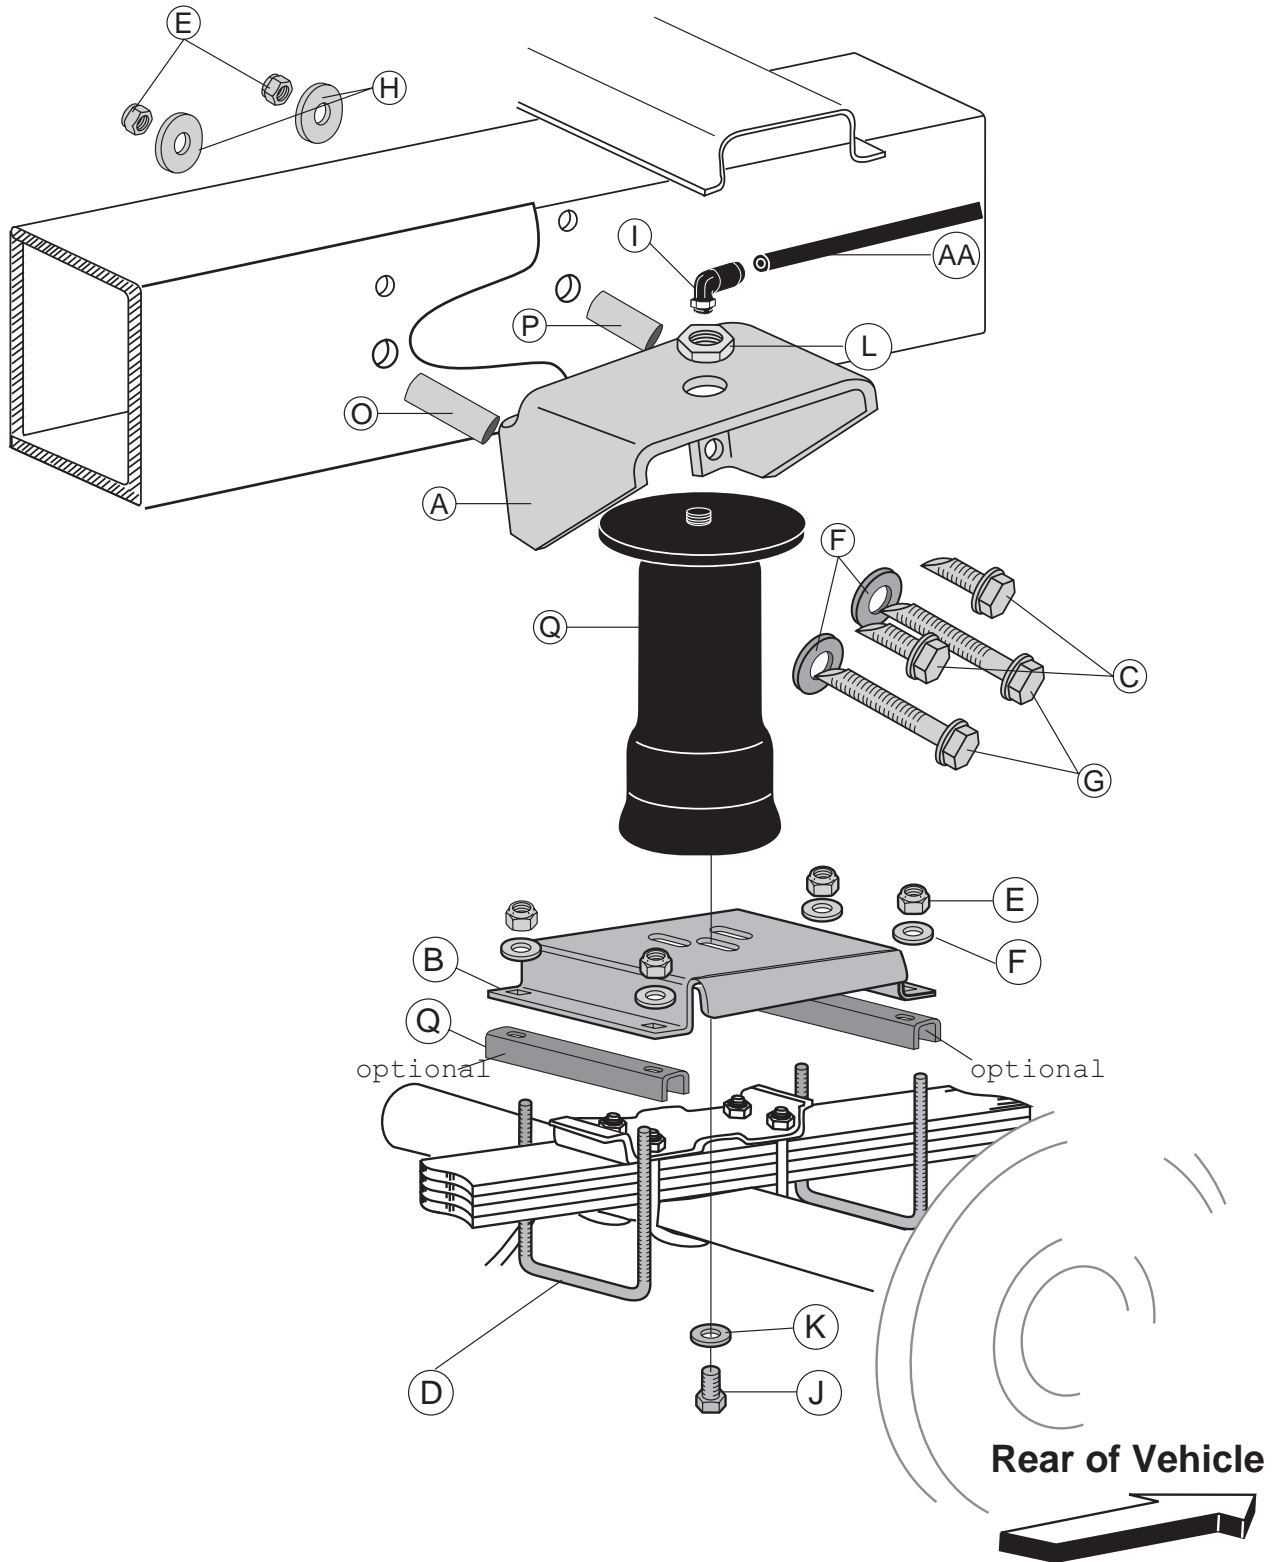

Figure 1
(* not shown in Figure 1)
2. Use the optional spacers (Q) for spacing the lower bracket up if the lower bracket hits on the stock U-bolts (Figure 1).
NOTE: The front leg of the upper bracket will mount on the raised front portion of the frame and the back leg of the upper bracket will mount on the recessed, rear portion of the frame (Figure 1).
5. The previously drilled 3/8" holes on the outside portion of the frame will need to be drilled out to 1/2" to provide enough room for the frame inserts to be installed into the frame (Figure 1).
6. Attach the upper bracket by inserting two 3/8 - 16 x 4" bolts (with flat washers) through the lower holes in the bracket. Install the long frame insert (O) on the front lower bolt. Install the shorter insert (P) onto the rear lower bolt (Figure 1).
1. Install 90 degree air swivel fitting (I) to the top of the air spring (Q) (Figure 1). Use a $\frac{7}{16}$ " open end wrench being careful to tighten on the metal hex nut only. Tighten 1 and $\frac{1}{2}$ turns. Do not over tighten.
2. Guide the fitting through the center mounting hole in the upper bracket (Figure 1).
3. Attach the air spring to the lower bracket using flat washer (K) and bolt (J). Leave loose for later adjustment.
4. Install a nylon nut (L) over the air fitting and onto the upper threadpost of the air spring (Figure 1). Tighten to 4 ft/lbs.